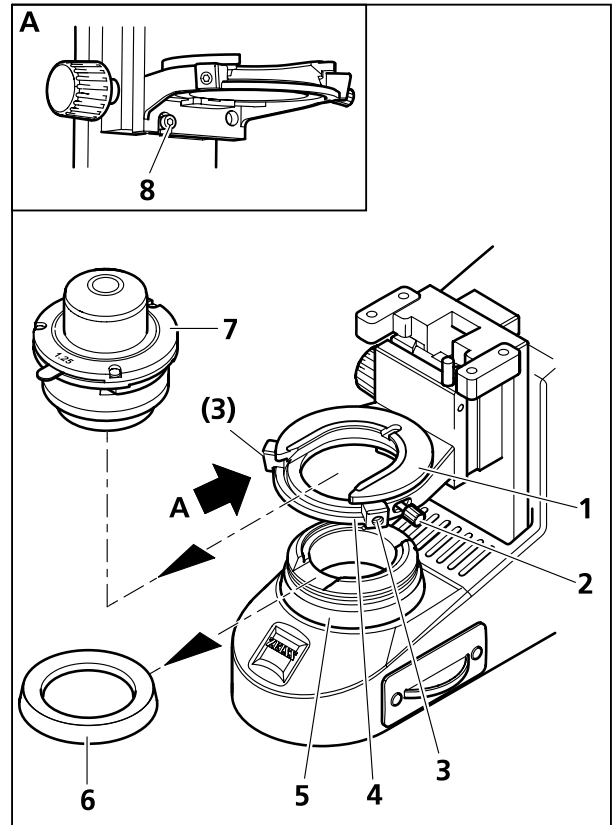
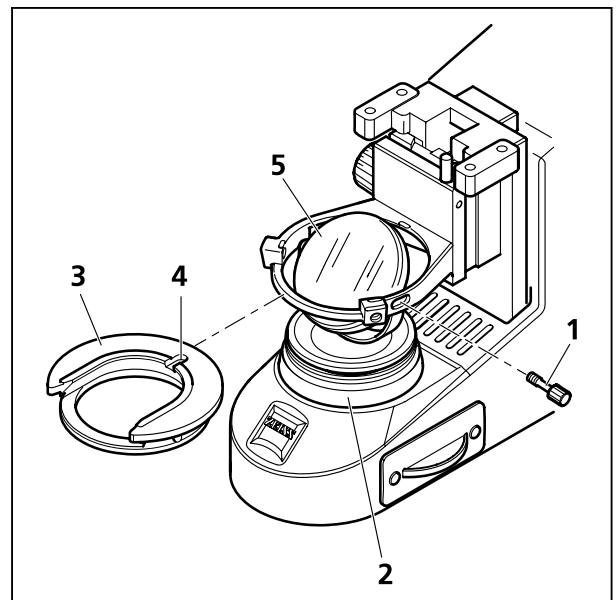

Fig. 30 Removing/installing the condenser
Fig. 31 Installing/removing the mirror
- Remove the cover cap (Fig. 30/6) from the luminous-field diaphragm (Fig. 30/5).
- Unscrew the stop screw (Fig. 30/8) and lower the condenser carrier fully down using the knurled screw for vertical adjustment.
- Using an Allen key, loosen the clamping screw (Fig. 30/2) of the condenser and the centering screws (Fig. 30/3) of the condenser carrier (Fig. 30/4) so that the condenser (Fig. 30/7) can be removed frontward. Remove the condenser (Fig. 30/7).
- Unscrew the clamping screw (Fig. 30/2 or Fig. 31/1) from the condenser carrier insert (Fig. 30/1 or Fig. 31/3).
- Push the condenser carrier insert backward against the spring and inclining it remove it upward from the condenser carrier (Fig. 30/4).
- Insert the mirror (Fig. 31/5) from top through the opening of the condenser carrier and place it onto the mount of the luminous-field diaphragm (Fig. 31/2). Take care that the mirror rests horizontally on the mount.